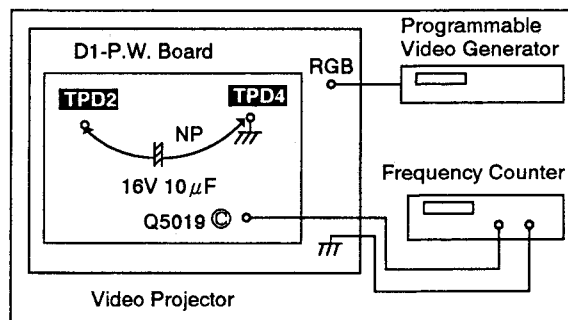

Fig. 7
20. Connect a jumper wire jig between **TPD2** and **TPD4**. (See Fig. 7)